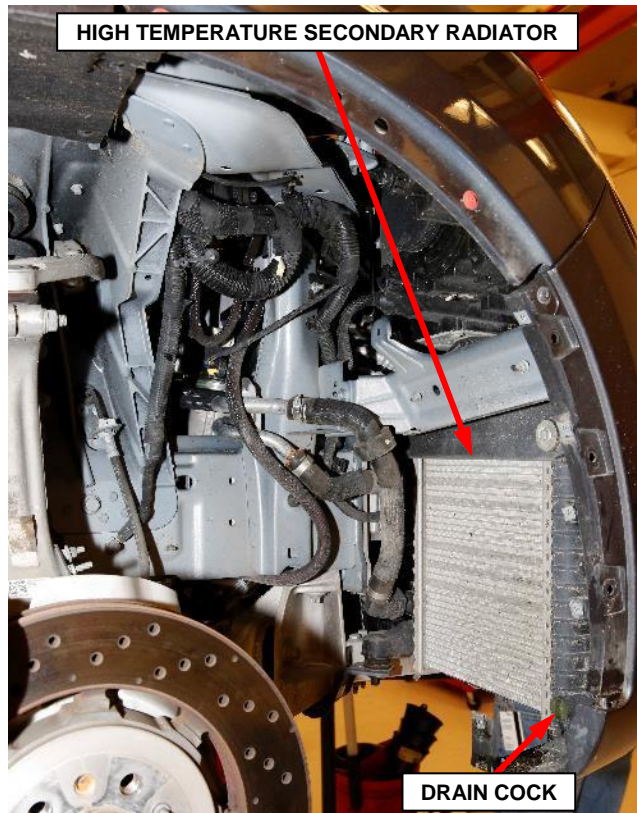

Figure 9 – High Temperature Secondary Radiator Drain Cock
27. Open the drain cock located on the right side tank of the high temperature secondary radiator (Figure 9). Allow the coolant to drain into a suitable clean container for reuse
16. Close the drain cock located on the right side tank of the high temperature secondary radiator (Figure 9).